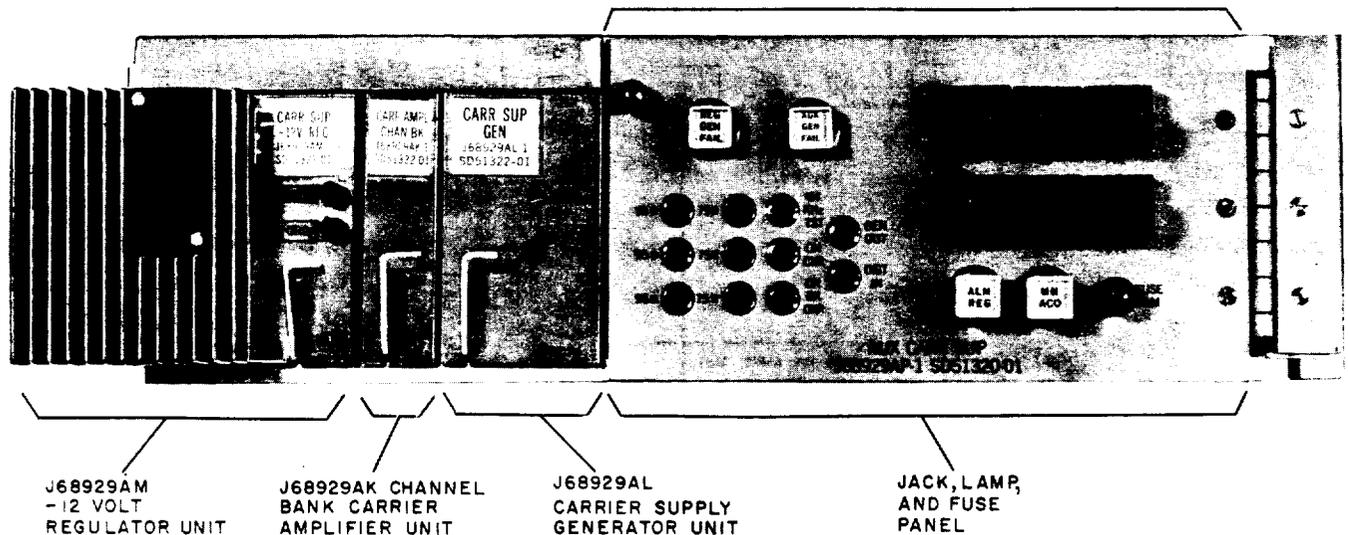

Fig. 2—A6 Auxiliary Carrier Supply
2.08 The J68929AP auxiliary carrier supply (Fig. 2) consists of a die-cast aluminum shelf on which is mounted three types of plug-in units and a jack, lamp, and fuse panel. The plug-in units consist of one -12 volt regulator, one channel bank carrier amplifier, and one carrier supply generator unit.